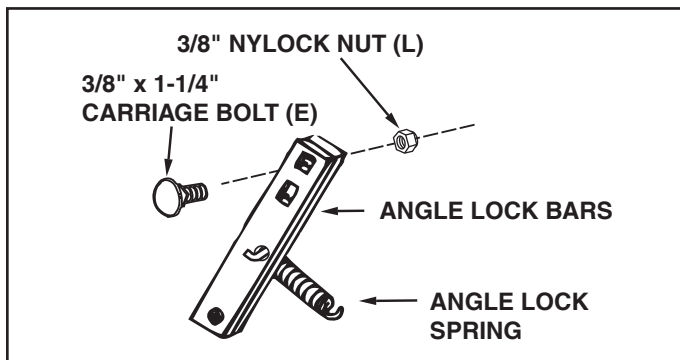

FIGURE 15 (Right Hand Side View)
STEP 1: (SEE FIGURE 15)
- Assemble a 3/8" x 1-1/4" carriage bolt (E) through the square hole in the cable mount bracket and through the square hole in the angle lock bars. (The carriage bolts should face in opposite directions.) Using pliers hold the cable mount bracket in position, angling down towards the L.H. hole in the channel as shown in figure 15. Secure with a 3/8" nylock nut (L). **Tighten.** Refer to the figure for the correct angle for the cable mount bracket.